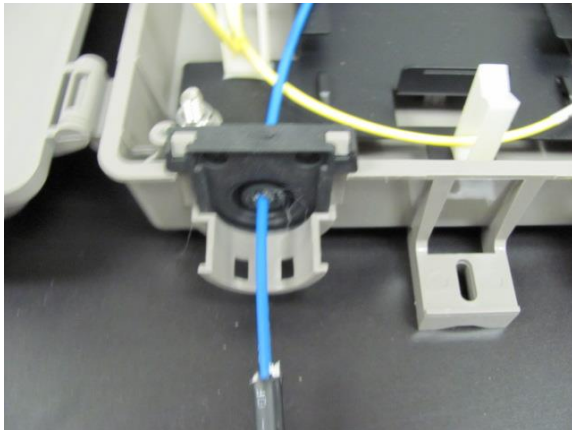

Figure 3
2. Slit cable entry grommet and feet buffer tube through grommet (Figure 3)